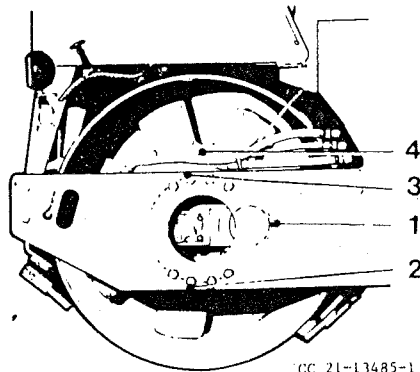

Fig. 8 Renondin drum gear
Wipe the area around the nipple (4) Fig. 8 and lubricate with \triangle grease, five strokes of the grease gun. Lubricate the shaft seal on both drum gears.